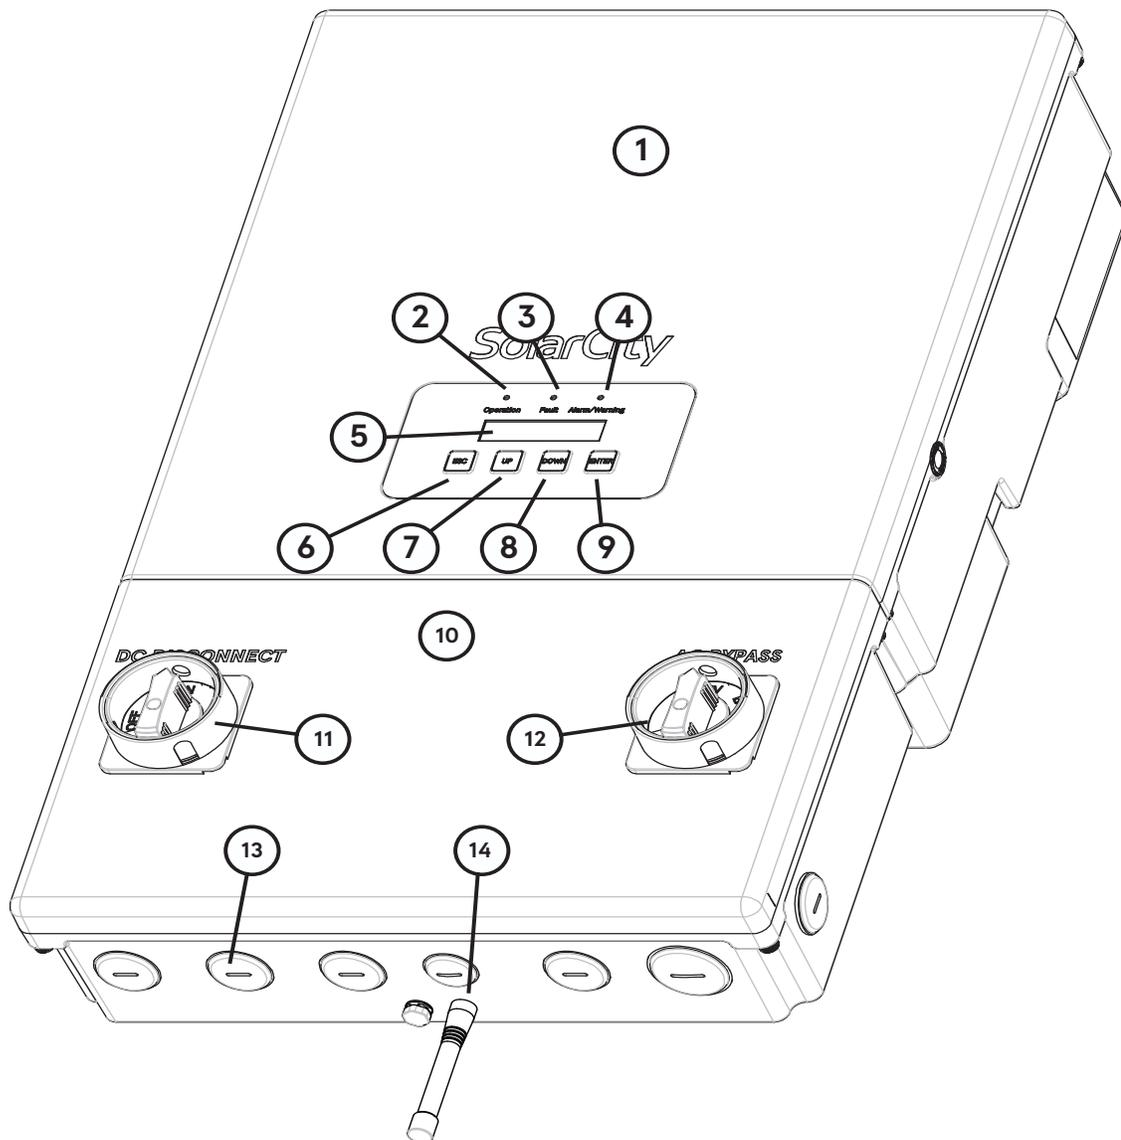

Figure 3-1: SolarCity H6 inverter with callouts
The numbered callouts in *Figure 3-1* correspond to the following:
This list describes the numbered callouts from *Figure 3-1* in detail:
- **DC Disconnect Switch (11):** This switch allows DC power from both the PV array and battery pack to be cut off from the inverter. The DC Disconnect is lockable in the OFF position. See *"DC Disconnect Switch" on page 25.*
- **AC Bypass Switch (12):** By default, when set to the INV position, the AC Bypass Switch connects backup loads to the utility grid via the SolarCity H6 inverter; however, you can bypass the inverter and directly connect protected loads to the utility grid during service/maintenance by switching to the BYP position. There is no OFF position for this switch, so for AC grid isolation, the back-feed breaker in the main panel must be disconnected. See *"AC Bypass Switch" on page 26.*
- **Conduit plugs (13):** The SolarCity H6 inverter includes a single 1" conduit opening, six (6) 3/4" conduit openings, and a single 1/2" conduit opening. Each conduit opening includes a watertight rubber or plastic plug that must be removed before installing conduit fittings. Conduit fittings must be watertight. See *"Conduit Plugs and Fittings" on page 61.*
- **ZigBee antenna (14):** The ZigBee antenna uses the 2.4GHz to 3.5GHz frequency range and connects to the SolarCity H6 inverter using the standard SolarCity RP plug. *Figure 3-1* shows the antenna mounting only; the antenna itself is not shown. The antenna is rated for use in both indoor and outdoor installations. See *"ZigBee & Gateway" on page 69.*